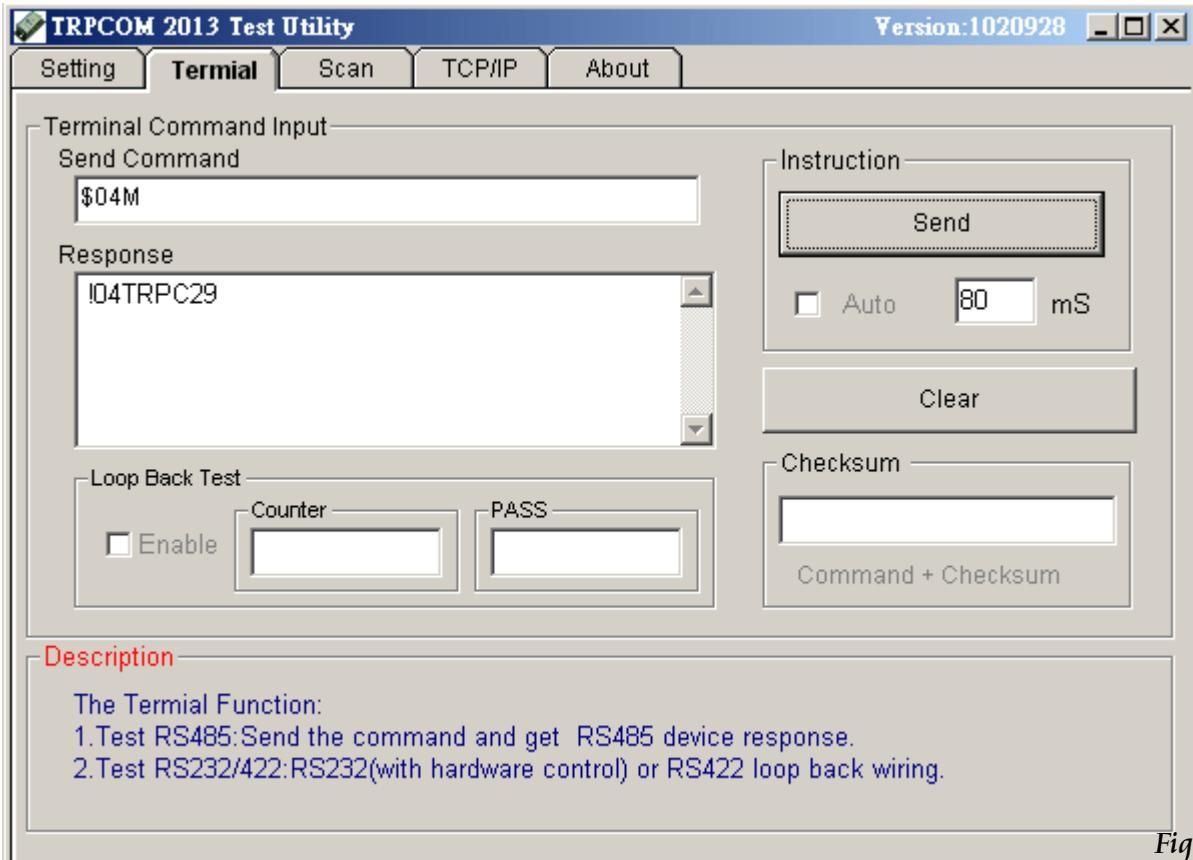

Figure 2
2.The “Terminal” function is for user to input command, user can control all of module’s digital input/output status or wait to get module response status ...See Figure 2.